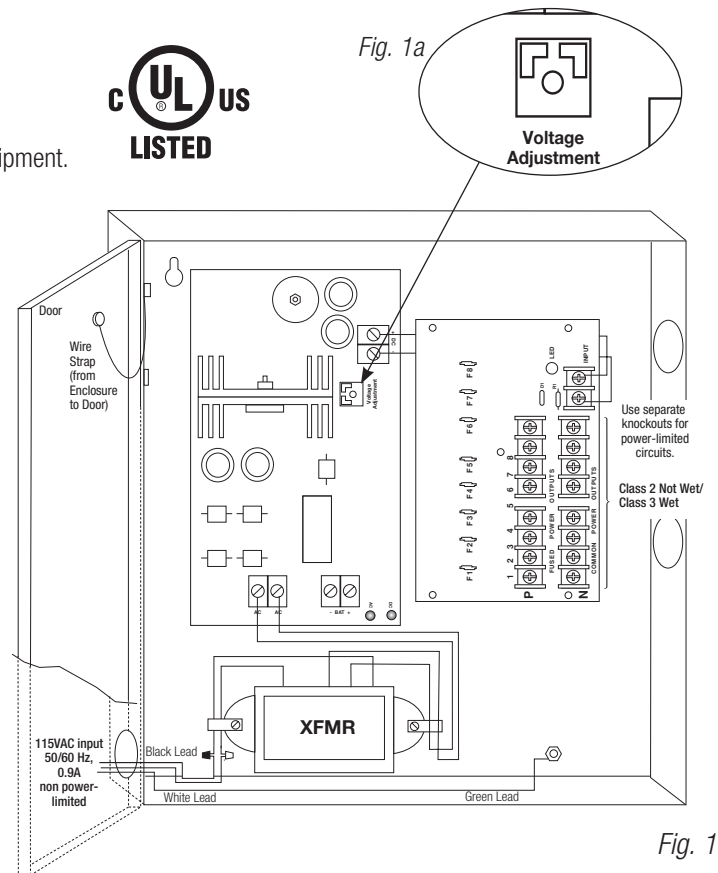

Fig. 1
- Output PTCs are rated at 2.5A/250VAC (Fig. 1).
2. Connect green lead to earth ground. Connect AC (115VAC, 50/60 Hz) to the black and white flying leads of the transformer (Fig. 1). Use knockout adjacent to the transformer. 0.25" spacing must be provided between AC input wiring and all other circuits.
5. Connect each DC CCTV cameras to the terminal pairs marked [1P-1N] through [8P-8N] on PD8CB board (Fig. 1), carefully observing correct polarity.